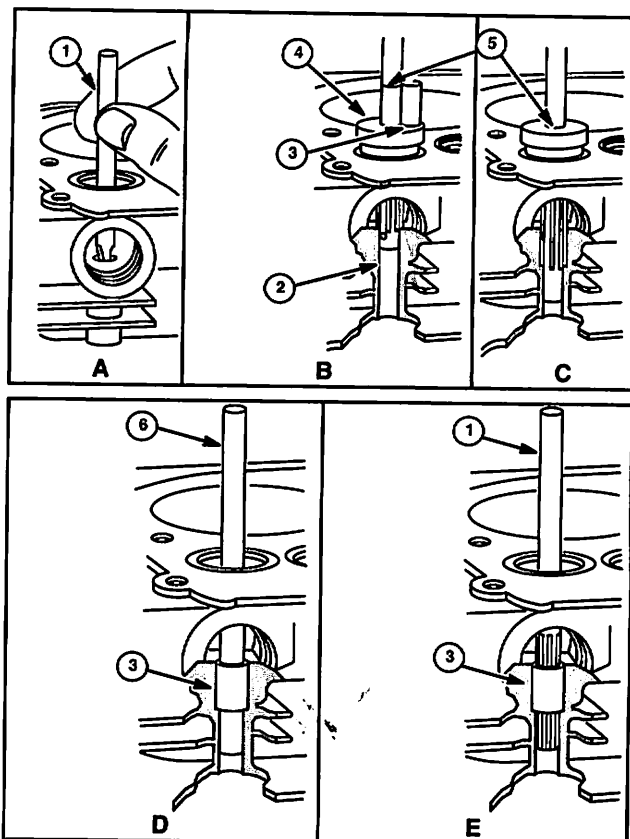

Fig. 10
If flat end of Valve Guide Plug Gauge, Tool #19122 (1), can be inserted into valve guide a distance of 5/16" (7.92 mm), Fig. 10, A, the valve guide is worn and should be rebushed.
1. Place pilot of Tool #19064, Counterbore Reamer (2), in valve guide.
2. Slide Tool #19191, Pilot Bushing (4), down over reamer until bushing rests on valve seat.
3. Hold a replacement guide bushing (3), Part #63709, on top of pilot bushing and mark reamer 1/16" (1.57 mm) above it (5), Fig. 10, Illus. B.
5. After counterboring guide, continue to turn reamer in same direction while withdrawing it, Fig. 10, Illus. C.
7. Press bushing with Tool #19367, Valve Guide Bushing Driver (6), until bushing is flush with top of guide, Fig. 10, Illus. D.
8. Finish ream bushing through to breather chamber with Tool #19066. Finish Reamer, using kerosene or equivalent to lubricate reamer, Fig. 10, Illus. E.